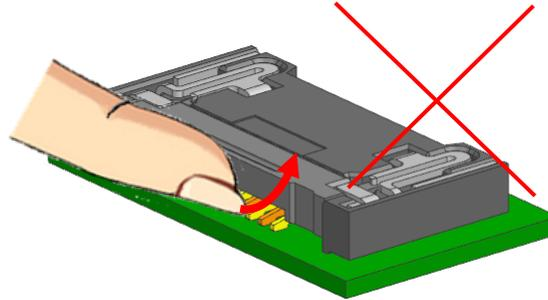

Fig 7. Image of Push Button
37. Avoid pushing the push button to the direction which the push button is dislodged, as shown in Fig.7. This may cause damage or detachment.